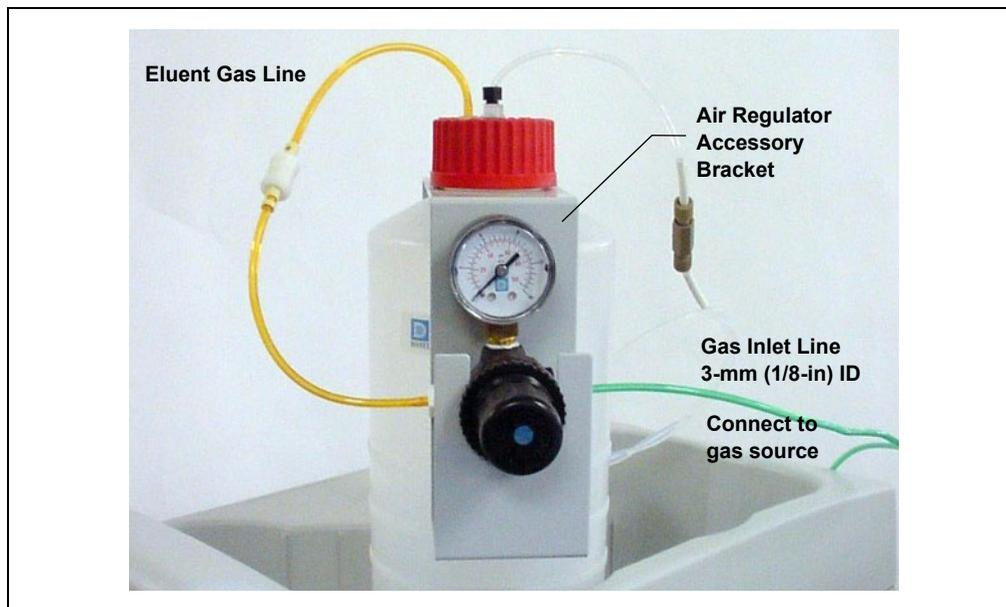

Figure B-67. ICS-2000 Pressurized Eluent Reservoir Connections (Optional)
3. Push the other end of the tubing onto the inlet of the air regulator (see Figure B-67).
6. Slip the air regulator accessory bracket over the neck of the eluent reservoir (see Figure B-67).